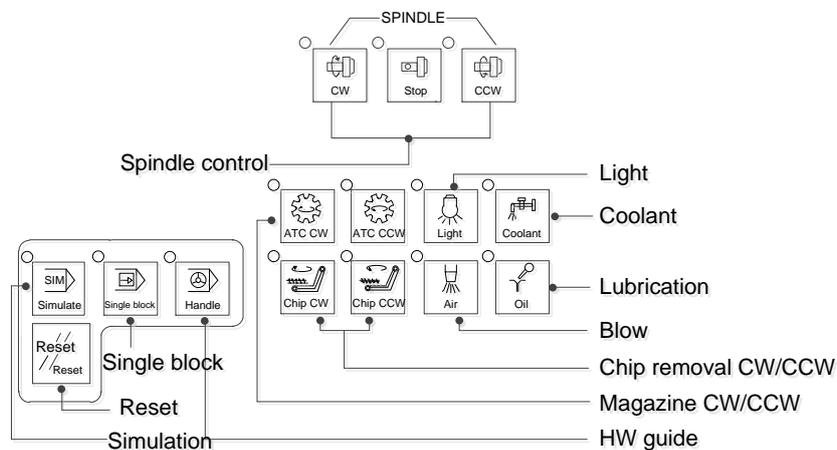

Fig. 1-9 Auxiliary Function Keys
- (6) Extension keys include K1~K4, used for user-defined functions.
- (7) Auxiliary function keys are used to control the auxiliary functions of the machine tool. Please refer to Fig. 1-9 for details.